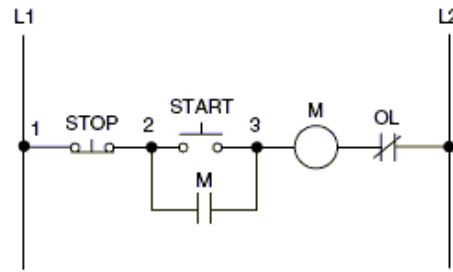

Fig. 14 Three-Wire Low Voltage Protection.
2. Three-Wire Low Voltage Protection (Fig. 14)